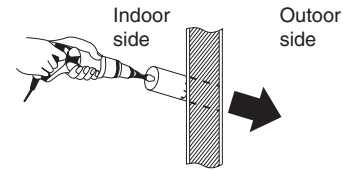

Fig. 3-4
- (4) Using a sabre saw, keyhole saw or hole-cutting drill attachment, cut a hole in the wall. (Fig. 3-4)